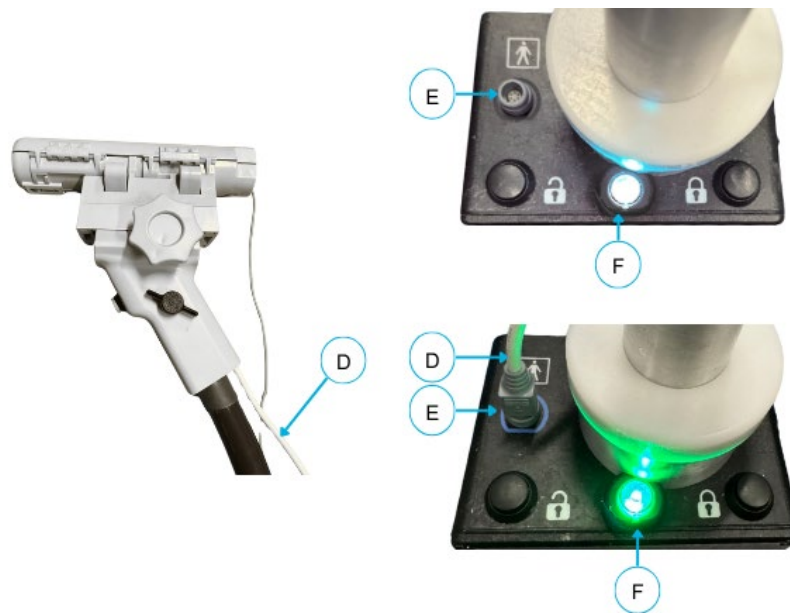

Figure 10-29: TRUS Cradle Cable Connection
3. Identify the cord (D) extending from the TRUS Cradle.
4. Locate the cable connection port (E) on the top left corner of the Motor Box (Figure 10-29).